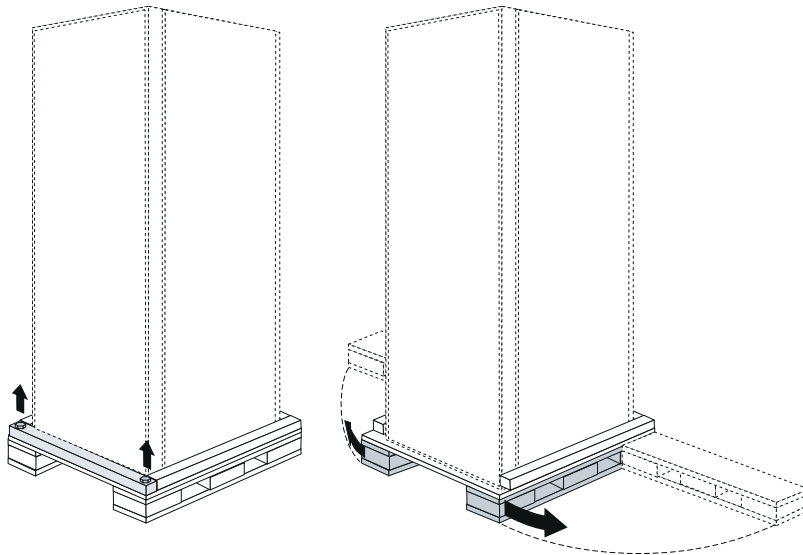

Figure 3. Removing the lag bolts
2. Use the 8-inch adjustable wrench to remove the two lag bolts from the wood frame at the rear of the server rack cabinet. This releases the pallet supports (Figure 3).